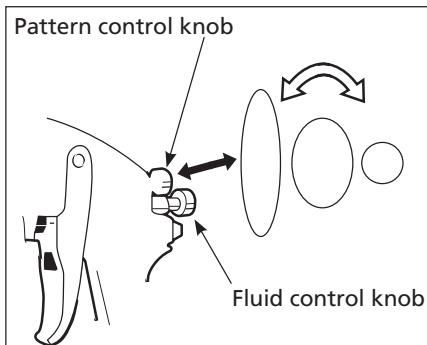

Figure 5 - Pattern size
2. Set pattern size to desired shape. For full pattern, open pattern control knob by turning counterclockwise. For a round pattern, turn pattern control knob clockwise (See Figure 5).
3. Turn fluid control knob fully clockwise until closed (See Figure 5).
5. Unscrew packing nuts and replace the packing ONLY if a leak will not stop when the nut is tightened (See Figure 5). Do not over-tighten a packing nut because this will restrict movement of the needle.